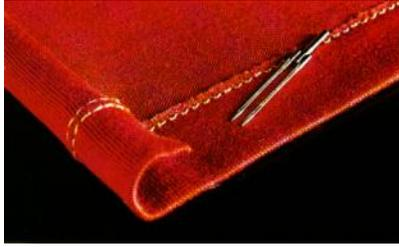

Fig.7-24: Hemming
- When entire hem is complete, gently hammer the glued portion of the hem from the inside with a mallet. After drying, topstitch the folded edge (**Fig.7-24**).